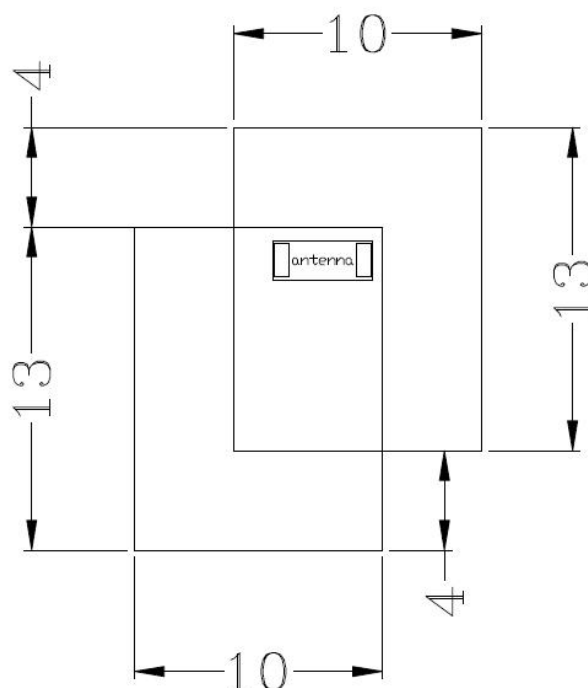

Figure 5
3. The PCB plate below antenna should be clear without copper deposition, i.e. no grounding or signal trace at layout level below antenna. Refer to clear space in figure 5: